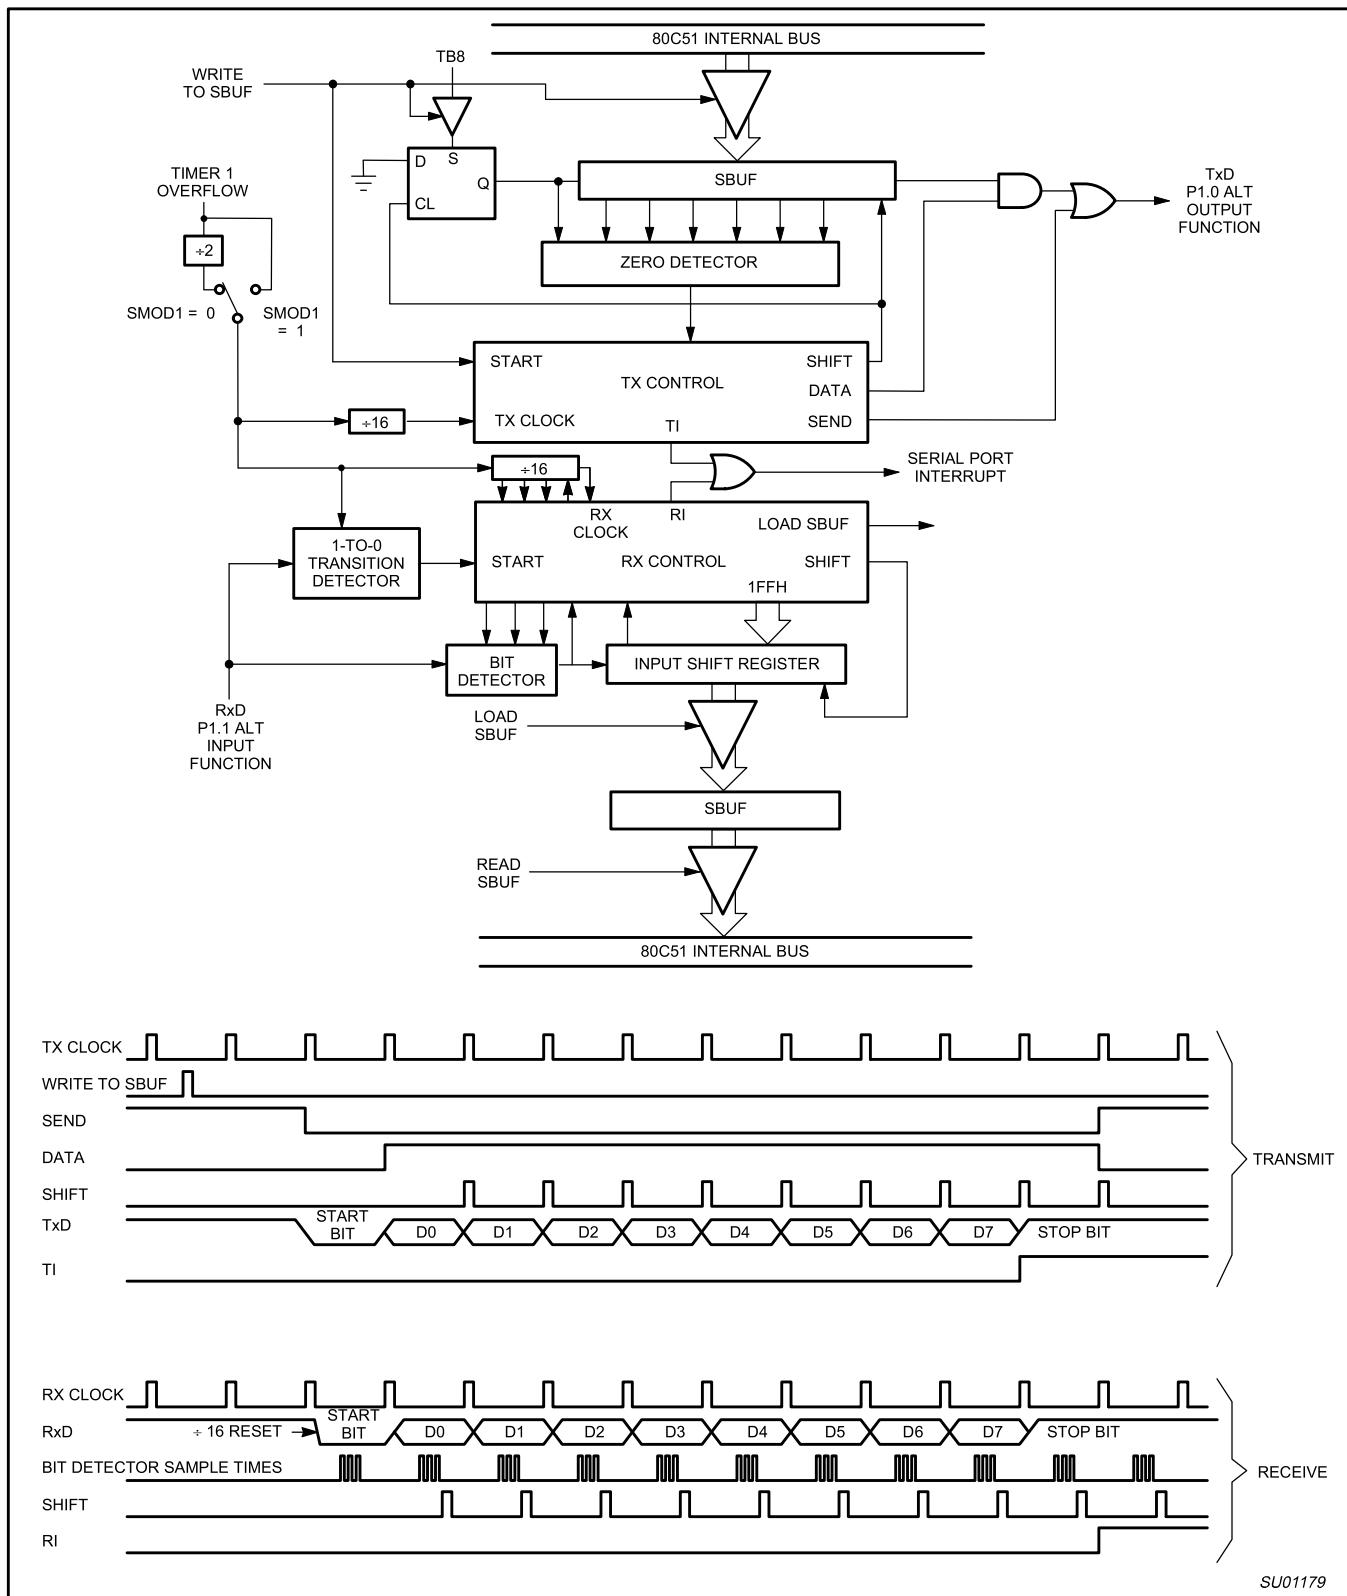

Figure 33. Serial Port Mode 1
Ten bits are transmitted (through TxD), or received (through RxD): a start bit (0), 8 data bits (LSB first), and a stop bit (1). On receive, the stop bit goes into RB8 in SCON. In the P87LPC761 the baud rate is determined by the Timer 1 overflow rate. Figure 33 shows a simplified functional diagram of the serial port in Mode 1, and associated timings for transmit/receive.